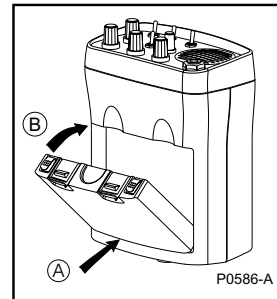

Figure 9 - Installing the Battery Pack
- b) Place the base of the battery pack at the rear of the battery compartment (A). Push the front edge of the battery pack into position (B). The two battery clips will “click” into position to hold the battery pack in place (see figure 9).
- e) Place the base of the battery pack at the rear of the battery compartment (A). Push the front edge of the battery pack firmly into position (B). The two battery clips will “click” into position to securely hold your battery pack in place (see figure 9).